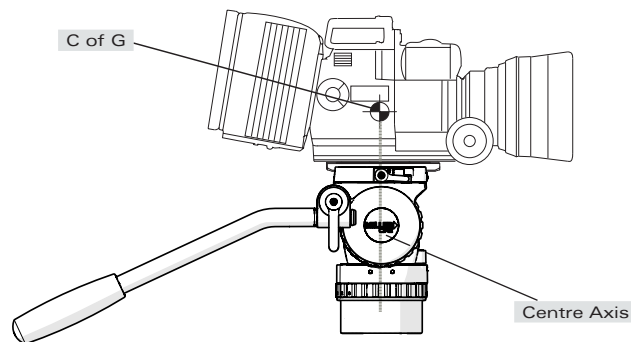

Fig. 6b
2.4 Release TILT LOCK, slide the CAMERA PLATE such that the camera's C of G is directly above the centre axis of the Fluid Head (fig. 6b), camera should be balanced (if not slide camera backward or forward). Once balanced tighten the SLIDE LOCK LEVER (anti-clockwise)³ and tighten TILT LOCK.